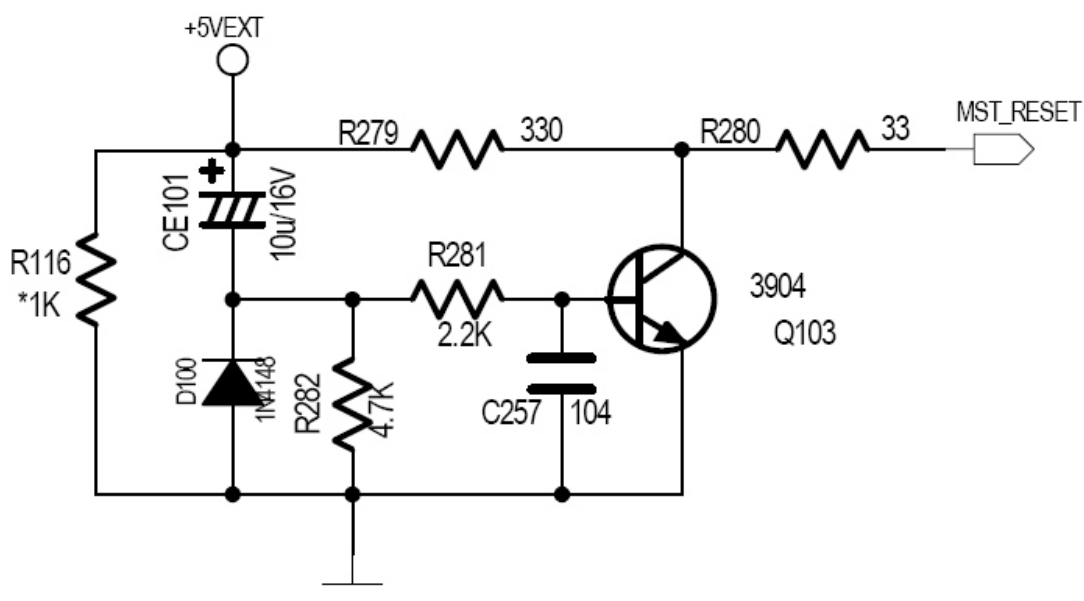

Figure 3.2.9.1 Reset circuit diagram
1. Reset circuit is shown as in the following figure 3.2.9.1: